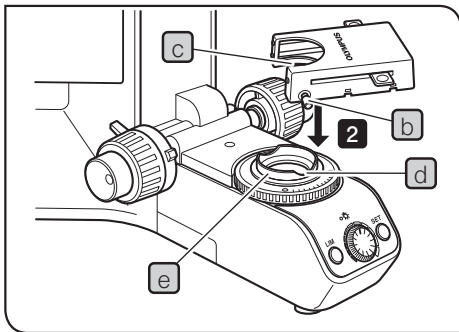

Fig.15
- 1 Fully loosen the filter cassette clamping screw **b**. (Fig.15)